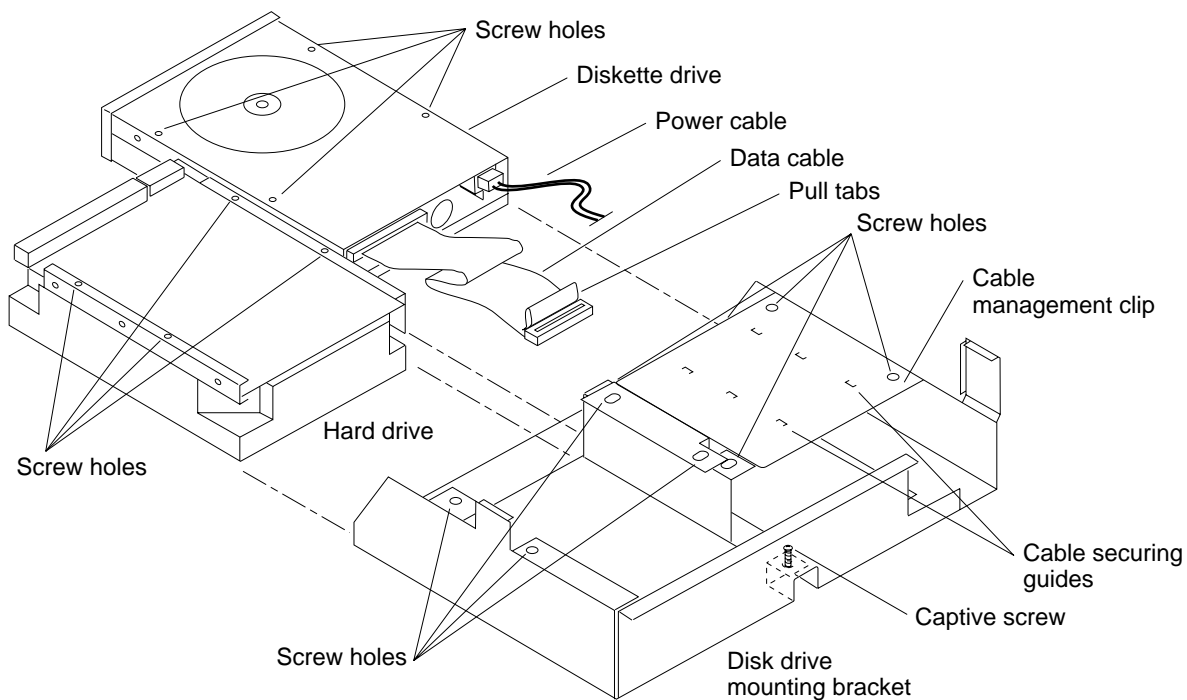

Figure 4-8 Disk Drive Mounting Bracket
4. **Detach the cables from the cable securing guides on the cable management clip over the diskette drive (see Figure 4-8).**
8. **Back off the captive Phillips head screw in the center rear of the bracket (closest to the power supply). See Figures 4-8 and 4-9.**
- 5. Secure the cables to the cable management clip over the diskette drive (see Figure 4-8 for the location of the clip and the cable securing guides).**
**4. Remove the four Phillips head screws securing the hard drive to the bracket (see Figure 4-8).**
The diskette drive is in the unit top at the front right side (see Figure 4-8). A 34-pin data cable and a 4-pin power cable connect to the rear of the drive. Four Phillips head screws attach the diskette drive to the mounting bracket. The drive and the mounting bracket (described above) are secured to the chassis by a single captive Phillips head screw at the center rear of the bracket. See Figures 4-8 and 4-9.
(See Figure 4-8.)
3. Slide the diskette drive out of the bracket as shown in Figure 4-8 and place it on an antistatic mat.